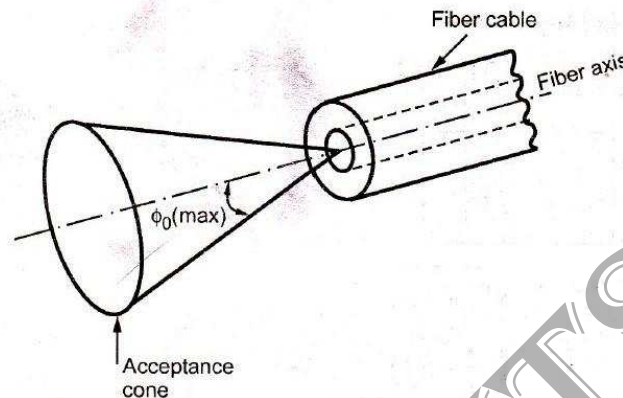

Fig. 1.6.10 Acceptance cone of a fiber cable
- x Rotating the acceptance angle  $\phi_{0(max)}$  around the fiber axis, a cone shaped pattern is obtained, it is called as **acceptance cone** of the fiber input. Fig 1.6.10 shows formation of acceptance cone of a fiber cable.